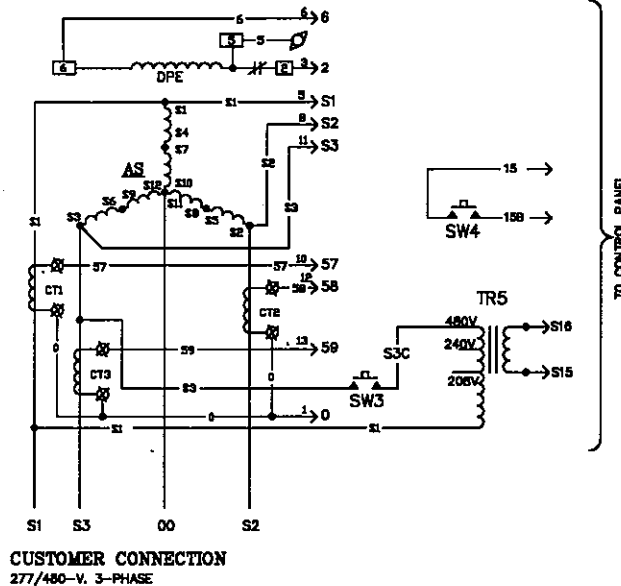

Figure 5 — "Hi Wye" Connected Stator
**Hi-Wye Connected:** With strapping board positioned over stud board the stator is "Hi-Wye" connected for 277/480 volts, 3-phase output (Figure 5).
system uses the gas vapors that form above the liquid in the tank (see Figure 5).